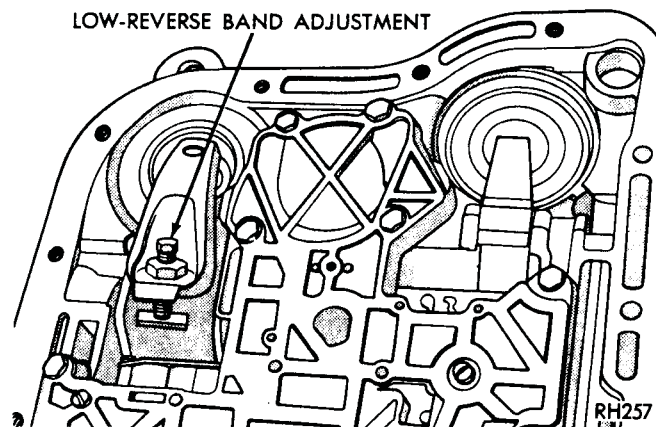

Fig. 5—Low-Reverse Band Adjustment
- (1) Raise vehicle, drain transmission fluid from loosened oil pan and remove oil pan.
- (2) Loosen adjusting screw lock nut and back off lock nut approximately five turns (Fig. 5). Test adjusting screw for free turning in the lever.
- (3) Using wrench, Tool C-3380-A, tighten band adjusting screw to 72 in. lbs. (8 N·m).
- (4) Back off adjusting screw the number of turns listed in "Specifications". Hold adjusting screw in this position and tighten lock nut to 25 ft. lbs. (34 N·m).
- (5) Reinstall oil pan using a new gasket. Tighten oil pan bolts to 150 in. lbs. (17 N·m).
- (6) Fill transmission with MOPAR ATF PLUS (Automatic Transmission Fluid) Type 7176.